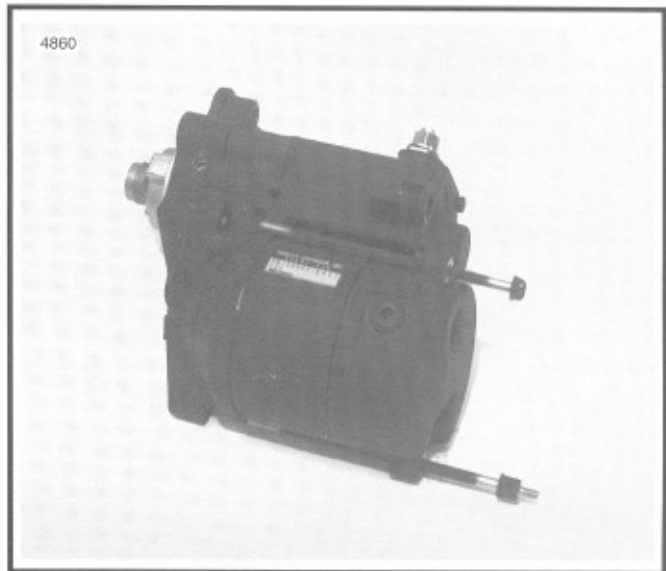

Figure 5-9. Removing the Thru-Bolts
2. See Figure 5-9. Remove thru-bolts.